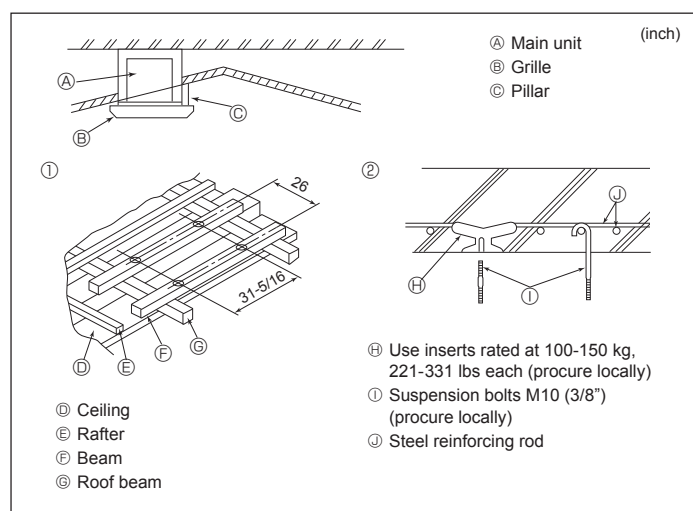

Fig. 3-5
3.5. Suspension structure (Give site of suspension strong structure) (Fig. 3-5)